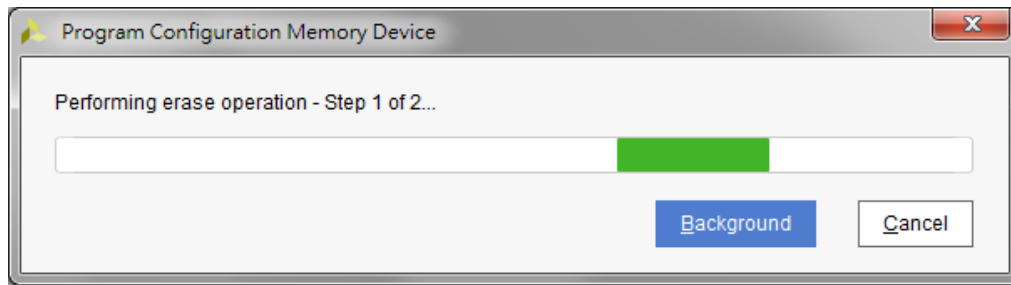

Figure 15. Performing program operation
- ❖ Performing program operation as Figure 15.